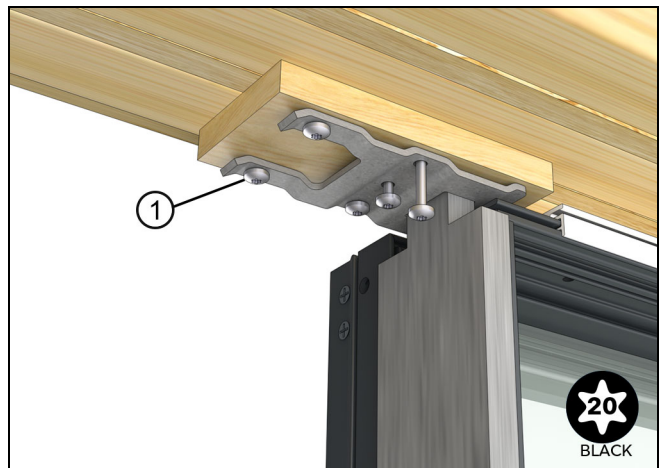

Figure 18
9. Fasten the top bracket to the RO with the 3" screws provided. See Figure 18.